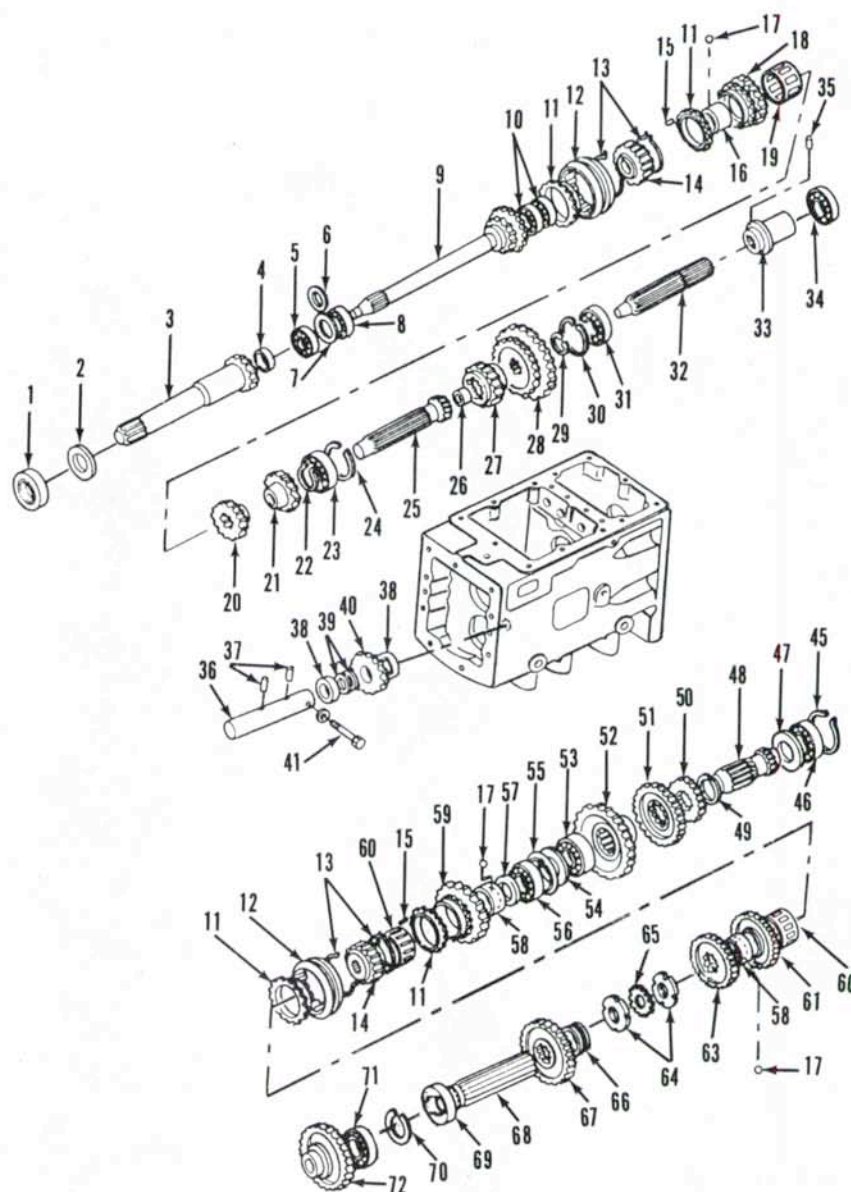

Fig. 220—Exploded view of optional synchronesh transmission used on Model 1910.
133. Refer to appropriate Fig. 220 or Fig. 221 for exploded view of synchromesh transmission. To disassemble transmission, first withdraw range gear countershaft (32) rearward while removing sliding gears (27 and 28) through top of housing.
Remove pto drive input shaft (3—Fig. 220 or 221) with bearing (5) and oil seal (4). On Model 2110, remove coupling (44—Fig. 221) from rear of pto driven shaft (75). Withdraw pto shaft and driven gear (72) forward from housing. On Model 1910, remove pto driven gear (72—Fig. 220) and bearing (71) from front of housing. The pto driven shaft is removed with the rear axle center housing when transmission is separated from center housing.
On Model 2110, straighten tabs of lockwasher (65—Fig. 221) and loosen the nuts (64). On all models, remove snap ring (45—Fig. 220 or 221) retaining countershaft rear bearing (46). Slide range countershaft (48) and rear bearing rearward from housing. Remove counter gears (52, 51 and 50 out top of housing.
On Model 1910, straighten tab on lockwasher (65—Fig. 220) and loosen nuts (64). On all models, remove snap ring (70—Fig. 220 or 221) retaining countershaft front bearing (69). Drive countershaft (68) forward from housing while removing gears (63 and 67) and synchronizer assembly out top of housing.
To reassemble transmission, first install transmission input shaft (9—Fig. 220 or 221) and bearings (8 and 10).
rear bearing. Be sure that grooved face of thrust washer (57) faces the synchronizer gear (59) and that steel balls (17) are positioned in grooves in collars (58). On Model 1910, adjust nuts (64—Fig. 220) to remove all end play from counter gears. Bend tabs of lockwasher (65) into slots in nuts to secure the nuts.
in groove of synchronizer sliding collar (12—Fig. 220 or 221). Install reverse idler gear assembly making sure that grooved side of thrust washers (38) faces the idler gear (40). Install transmission mainshaft (25) from the rear while assembling gears (20 and 21) and synchronizer assembly on the shaft. Check mainshaft end play using a dial indicator. Maximum allowable end play is
0.20 mm (0.008 inch). Install shims (6), if necessary, in front of input shaft bearing to adjust end play.
On Model 1910, install two 0.20 mm (0.008 inch) shims (47—Fig. 220) and rear bearing (46) on range countershaft (48). Install front bearing (53) in housing bore, then insert countershaft (without gears) and secure with rear snap ring (45). Use a dial indicator to measure countershaft end play. Install shims (54) in front of front bearing to adjust end play as close to zero as possible. Maximum
On Model 1910, install coupling (33—Fig. 220) and retaining pin (35) onto rear of range mainshaft (32). Install bearing (31) onto front of coupling. Insert shaft and coupling from the rear while assembling sliding gears (27 and 28) on the shaft. On Model 2110, insert range mainshaft (32—Fig. 221) from the rear while installing sliding gears (27 and 28) on the shaft.
Fig. 221—Exploded view of optional synchromesh transmission used on Model 2110. Refer to Fig. 220 for legend except for coupling (44), pto drive shaft (75) and bearing (76).